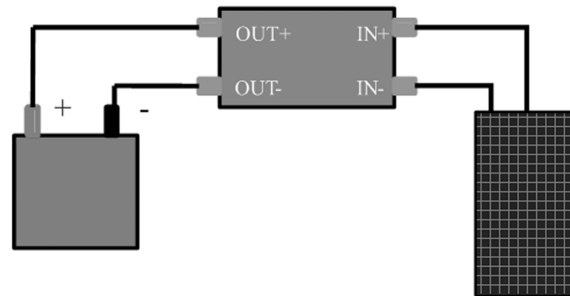

Figure 2. System Connection
Step 2: Connect battery to output terminals as shown in Figure 2.
Step 3: Connect Solar panel or Solar Array Simulator to the input terminals as shown in Figure 2.